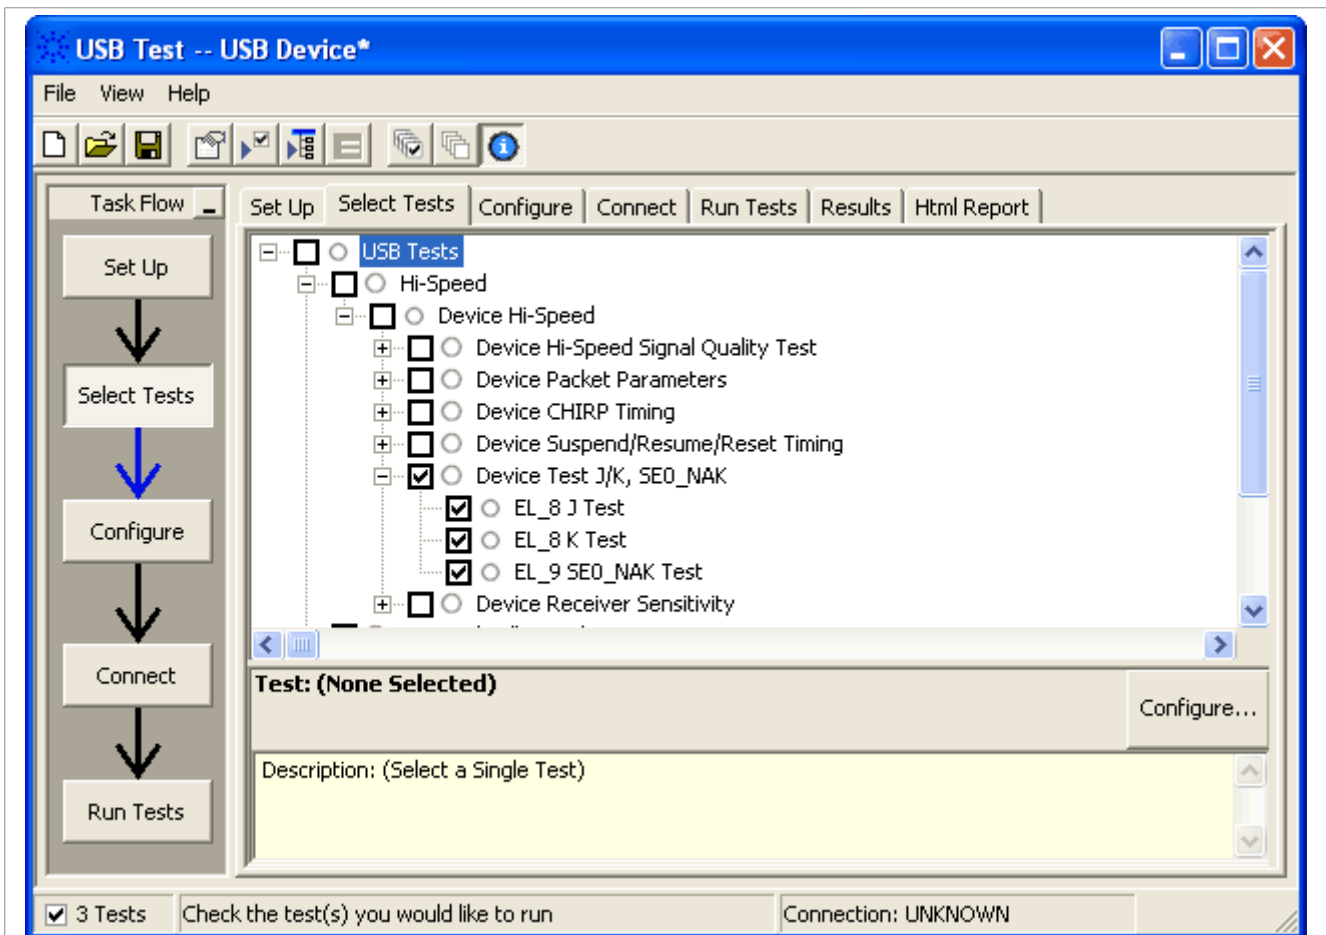

Figure 52. Device Test\_J/K, SE0\_NAK Test
1. Select the test items in the USB Automated Test Software on Oscilloscope as shown in Figure 52 below.